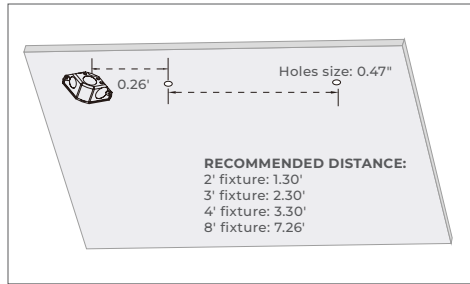

FIGURE 5-2
2) Prep mounting surface as shown in Figure 5-2.